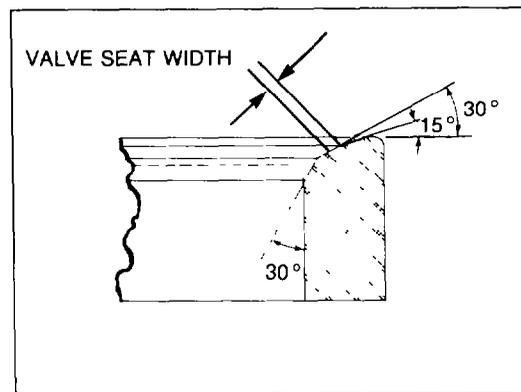

Figure 5 — Valve Seat Width
- h. Select a grinding wheel of suitable diameter and grinding angle (see Fig. 5). Grind the seat to the required angles and the seat area to 1.59-3.18 mm (0.063-0.125 in.) width using an up and down movement.